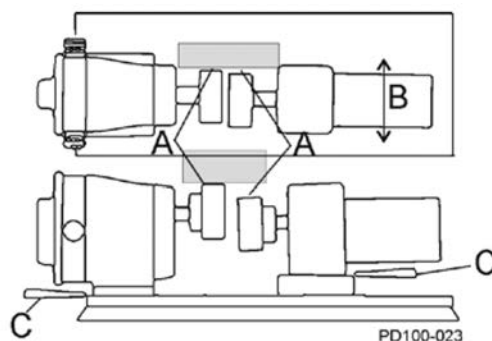

Fig. 20: Check Parallel Alignment
2. Using a feeler gauge at location "A" in Figure 20, determine the direction and amount of movement needed (Figure 20, item B).